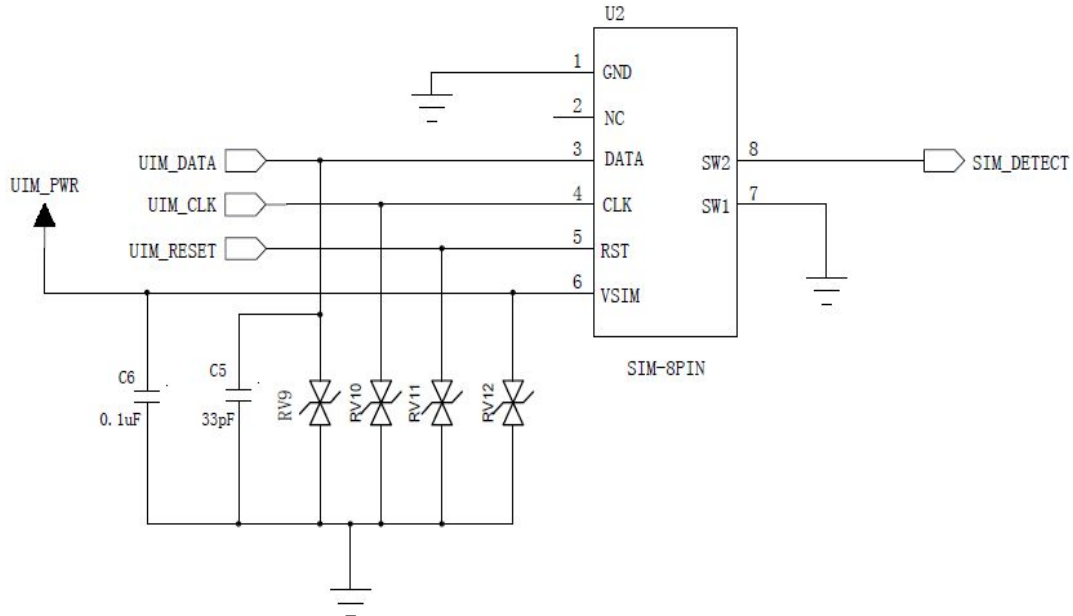

Figure 5-7 Reference Design of “Normally Closed” SIM Card Interface
- For “Normal closed” SIM card, as shown in the figure5-7, SIM_DETECT signal line is connected to U2’s Pin8 (SW2), and Pin7 (SW1) is connected to the ground. When the SIM card is not inserted, SW2 and SW1 short circuit, SW2 will be at low level. When the SIM card is inserted, SW2 and SW1 will be disconnected, SIM_DETECT level will be pulled up.